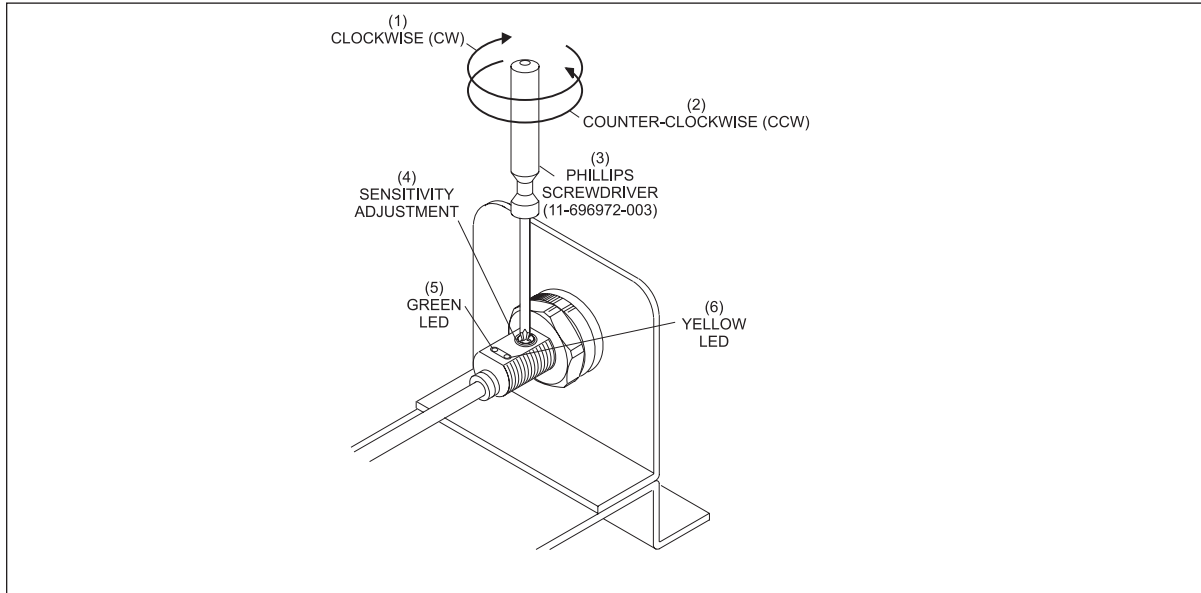

Figure 4-14. Sensitivity Adjustment 1
1. Turn the sensitivity adjustment fully CCW. The yellow LED will be “Off” and the Green LED will be “On”. Refer to figure 4-14 titled *Sensitivity Adjustment 1*.